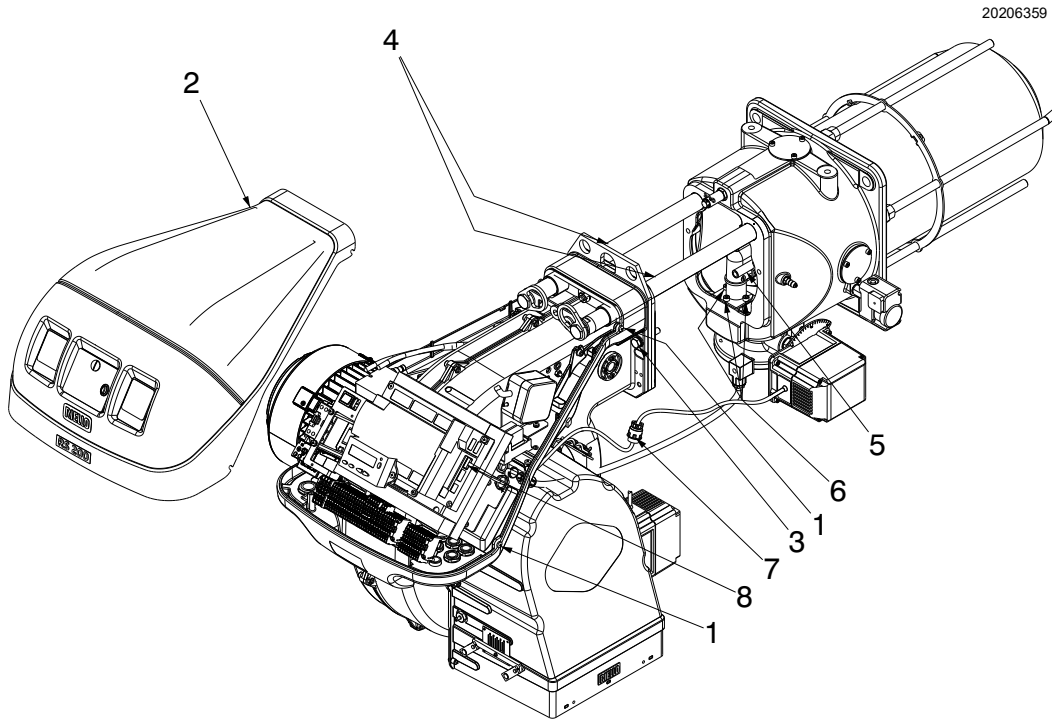

Fig. 42
- Loosen the 4 screws 1)(Fig. 42) and remove the cover 2);
- replace the screws 3)(Fig. 42) and carefully pull the probe and electrode cables outwards until they are slightly taut;